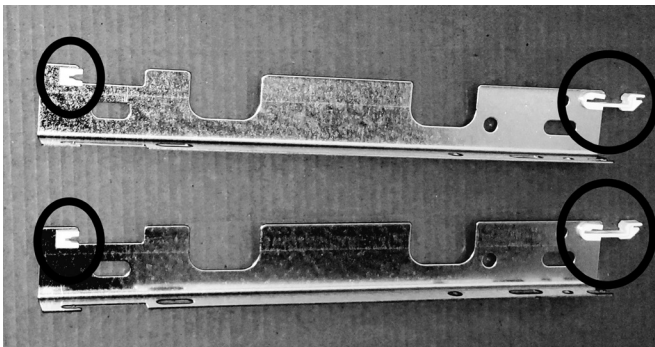
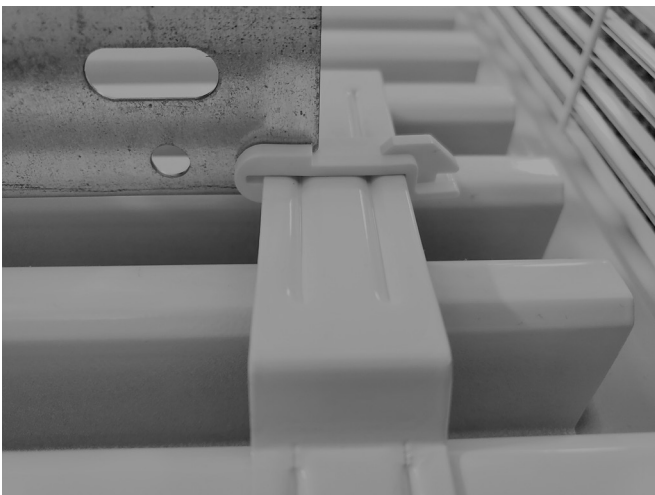

Figure 4 – Locking Clip and U clip Installed
Figure 5 – Top Locking Clip Installed
Step 2: Insert white plastic anti-vibration locking clip into notch at the top of the wall bracket until it clicks (see Figure 5). Insert the small square plastic U clip into the bottom notch of the wall bracket until it clicks (see Figure 6). See Figure 4 for proper placement of top and bottom clips.